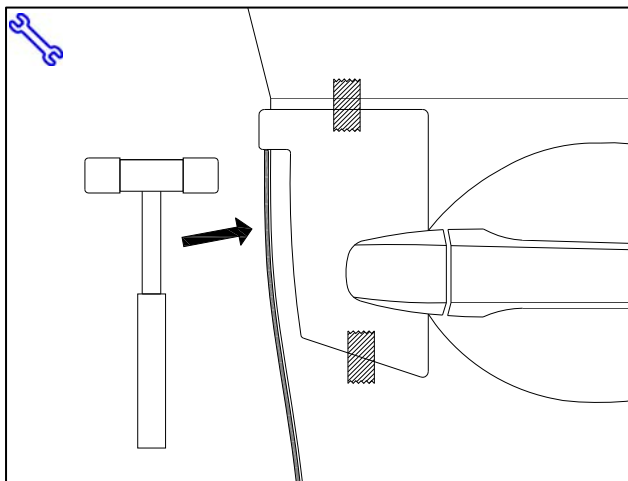

Fig. 1-11
- (m) While holding DEG in proper alignment with one hand (indicated by arrow), use **soft side of the rubber mallet** to begin tapping the channel onto the door edge starting at the top of the DEG. (Fig 1-11)